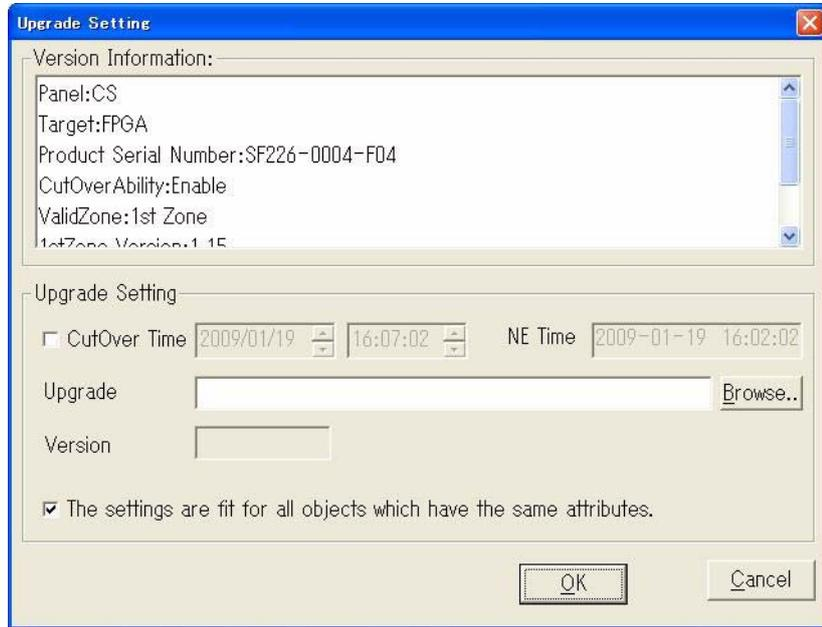

Fig. 4-10-8 Upgrade Setting Dialog Box
- 6 Click the **Set Upgrade** button. The **Upgrade Setting** dialog box is shown in *Fig. 4-10-8*: